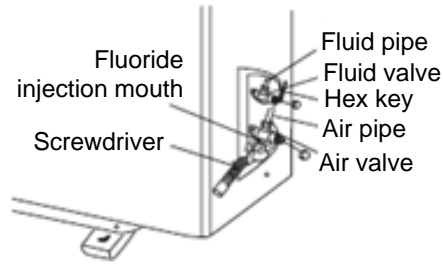

Figure 5-3 Opening the fluid valve and air valve
(1) Use a refrigerant in the outdoor unit:
- ① Remove the valve cap and the fluoride injection mouth nut from the fluid valve and the air valve.
- ② Use a hex key to slightly unscrew the valve plug of the fluid valve, and use a screwdriver to jack up the valve core of the air valve. Then, the air is discharging.
- ③ Discharge the air for about 15 seconds. When there is refrigerant gas discharged, close the valve core and tighten the fluoride injection mouth nut.
- ④ Fully open the valve cores of the fluid valve, and the air valve, as shown in Figure 5-3.
- ⑤ Tighten the valve cap, and then use a leak detector or soapy water to check whether the pipes for connecting the outdoor unit and the water tank leak.